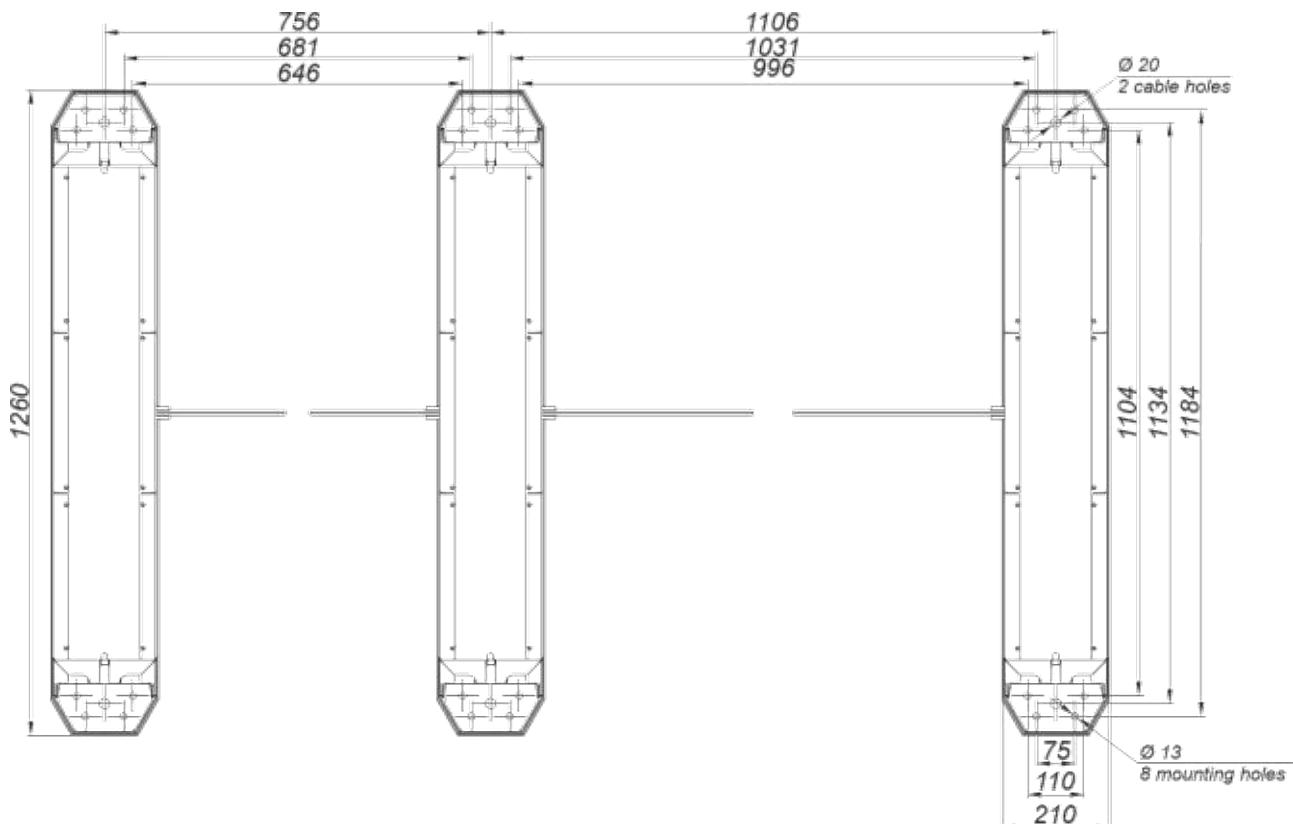

Fig. 17 – Installation dimensions of the "Sweeper-WP-1" and "Sweeper-WP-2" turnstiles set
5) The turnstile fixation holes to be marked on the area surface according to Figure 17 (for turnstiles with 550 mm and 900 mm lanes). The turnstile itself can be used as a template.
5. - Fixation holes at the turnstile bottom plate to be aligned with the prepared surface holes according to the marking in Fig.17;